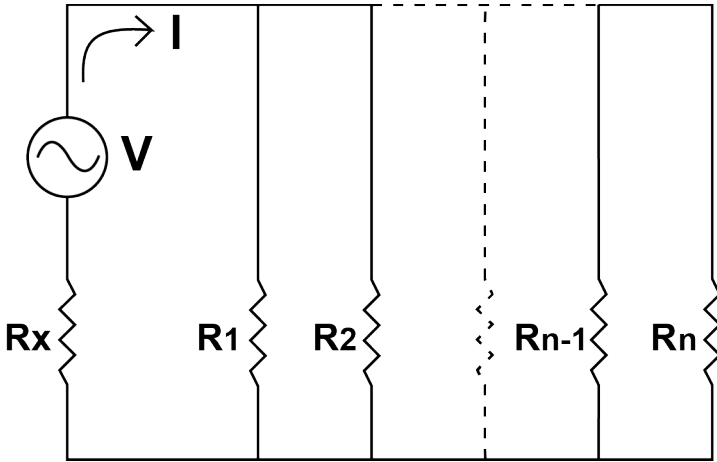
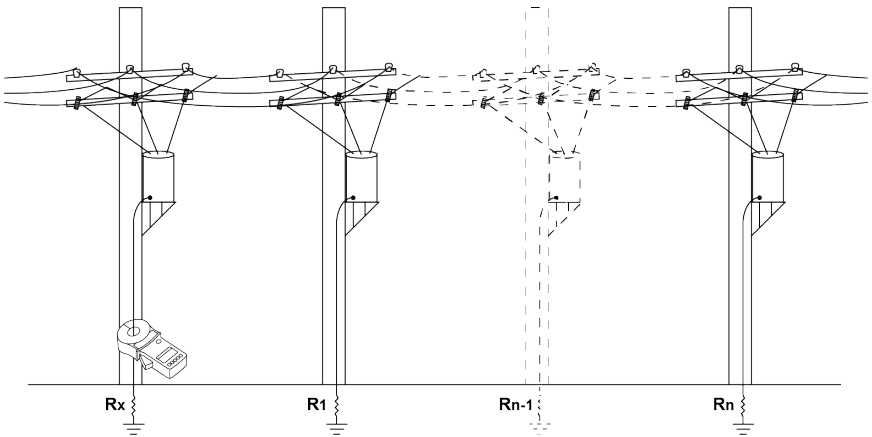

Figure 13
Figure 14
Typically grounded distribution system may be simulated by the basic circuit shown in Fig. 13 or an equivalent circuit, shown in Fig. 14. If voltage (V) is applied to any measured grounding electrode R_x through a special transformer, current (I) flows through the circuit, thereby establishing the following equation: